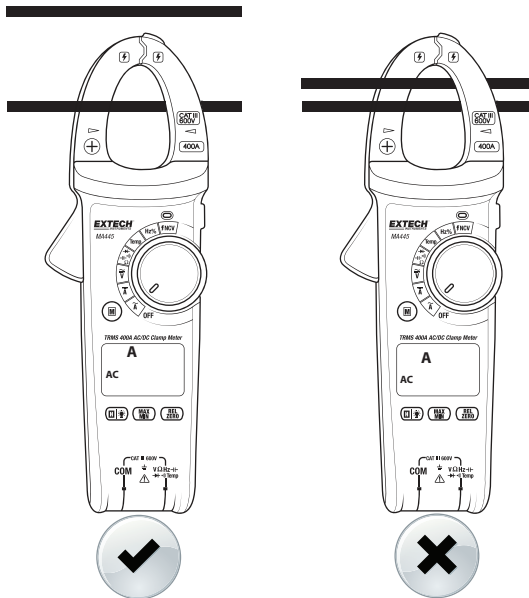

Fig. 2 – Correct and Incorrect ACA Clamping
4. Position the clamp around only one conductor. See Fig. 2 for correct and incorrect clamp technique.
4. Press the jaw trigger to open the clamp jaw. Position the clamp around only one conductor. See Fig. 2 (previous section) for correct and incorrect clamping techniques.